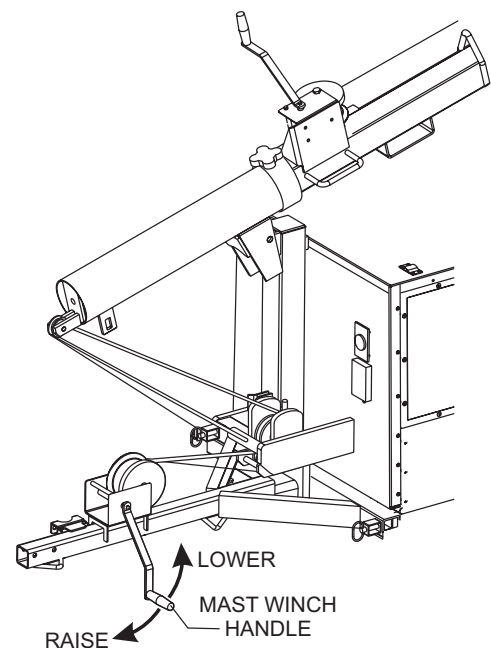

Figure 2. Raising Mast
3. Turn mast winch handle (Figure 2) clockwise and raise mast assembly from horizontal (transport) position to the vertical (upright) position, approximately 3 feet (1 meter). Keep telescopic sections in the lowered position-**DO NOT EXTEND THE TELESCOPIC SECTIONS!**